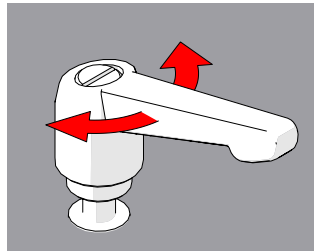

Fig. 100 - Rotate handle
2. Continue to pull while rotating the lever in the appropriate direction (*Fig. 100*).